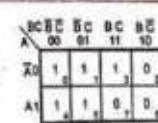

Fig. 4.3.1 (a)
**Step 1 :** Fig. 4.3.1 (a) shows the K-map for three variables and it is plotted according to the given expression.